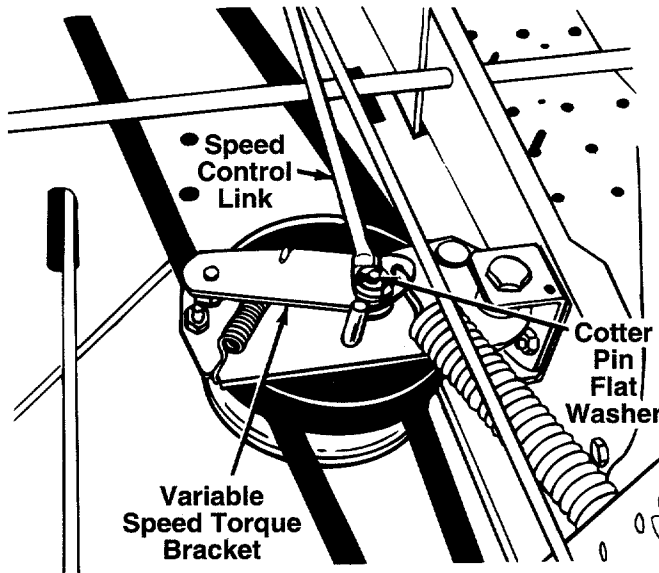

FIGURE 15.—Viewed From Beneath Tractor
9. Disconnect the speed control link from the variable speed torque bracket by removing the cotter pin and flat washer. See figure 15.